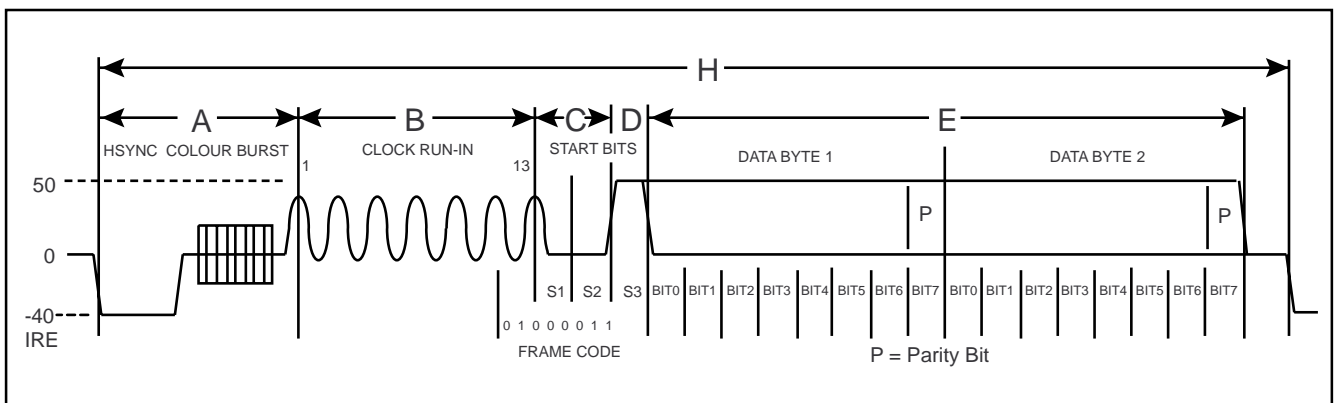

Figure 8 Closed Caption format
Two bytes of data are coded on the line 21 of each field, see figure 8. In the NTSC Closed Caption service, the default state is to code on line 21 of field one only. An additional service can also be provided using line 21 (284) of the second field. The data is coded as NRZ with odd parity, after a clock run-in and framing code. The clock run-in frequency = 0.5034965MHz which is related to the nominal line period,  $D = H / 32$ .